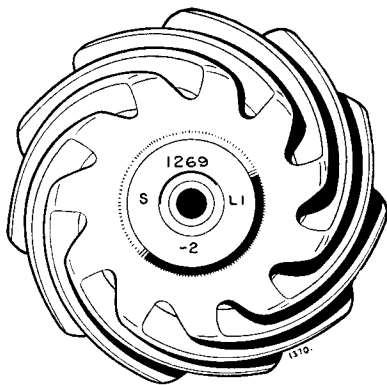
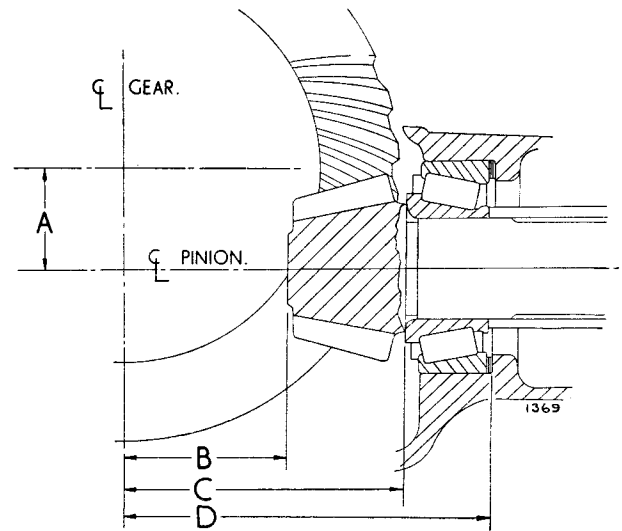

Fig. 14. Pinion setting marks.
Fig. 15. Pinion setting distances.
The correct pinion setting is marked on the ground end of the pinion as shown in Fig. 14. The matched assembly serial number at the top is also marked on the drive gear, and care should be taken to keep similarly marked gears and pinions in their matched sets, as each pair is lapped together before despatch from the factory. The letter on the left is a production code letter and has no significance relative to assembly or servicing of any axle. The letter and figure on the right refer to the tolerance on offset or pinion drop dimension "A" in Fig. 15 which is stamped on the cover facing of the gear carrier housing.
The number at the bottom gives the cone setting distance of the pinion and may be Zero (0). Plus (+) or Minus (—). When correctly adjusted, a pinion marked Zero will be at the zero cone setting distance, dimension "B" in Fig. 15 from the centre line of the gear to the face on the small end of the pinion; a pinion marked Plus two (+2) should be adjusted to the nominal (or Zero) cone setting plus .002", and a pinion marked Minus two (—2) to the cone setting distance minus .002".
The zero cone setting distances ("B" Fig. 15) for the various axles are given below.